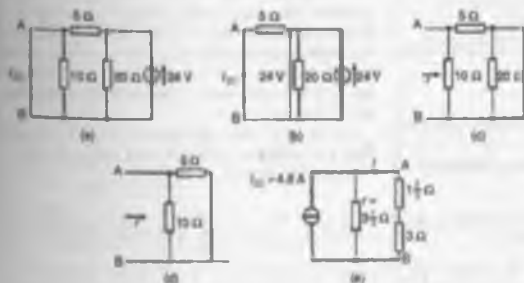

Figure 13.60
- The branch containing the $3\ \Omega$ resistance is short-circuited as shown in Fig. 13.60(a)
- From the equivalent circuit shown in Fig. 13.60(b).
- If the 24 V source of e.m.f. is removed the resistance 'looking-in' at a break made between A and B is obtained from Fig. 13.60(c) and its equivalent circuit shown in Fig. 13.60(d) and is given by:
- From the Norton equivalent network shown in Fig. 13.60(e) the current in the $3\ \Omega$ resistance is given by: